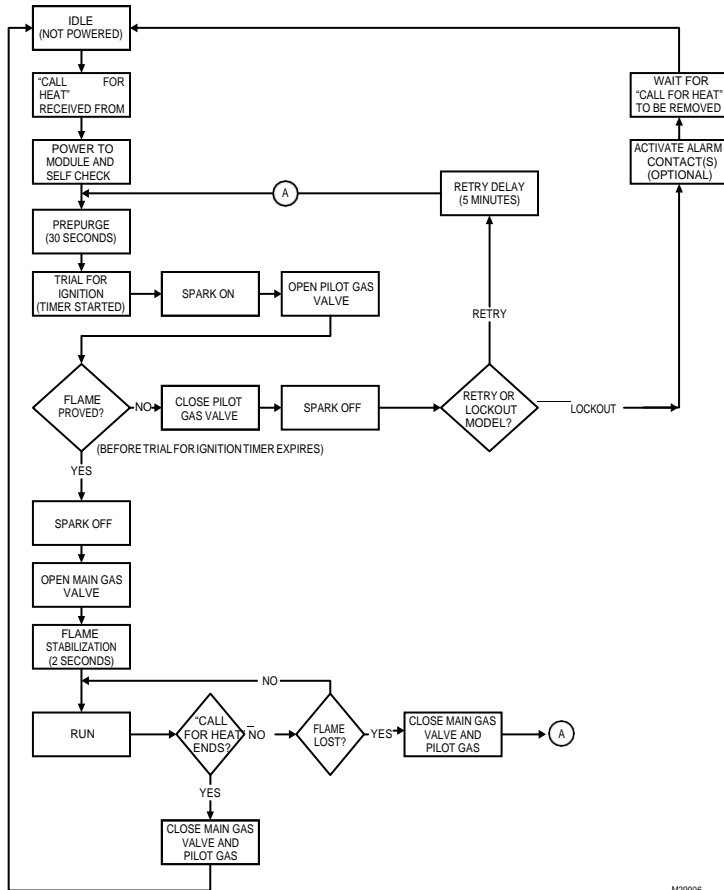

Fig. 10. Normal Operating Sequence for Prepurge Models.
- Prepurge (S8670 models only)—See Fig. 10